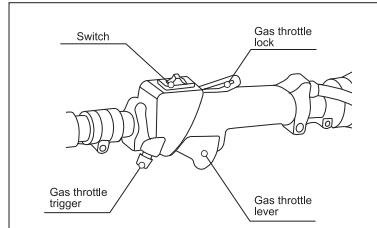

fig. 10
5. Turn the ignition switch, located on the control handle, to the ON/1 position. Pressing the fuse lever, push the throttle lever (throttle lever) and lock it in the depressed state using the lock (fig. 10).
1. Turn on the ignition using the switch located on the control handle (fig. 10).
2. Pressing the safety lever, push the throttle lever (throttle lever) and lock it in the depressed state with the latch (fig. 10).